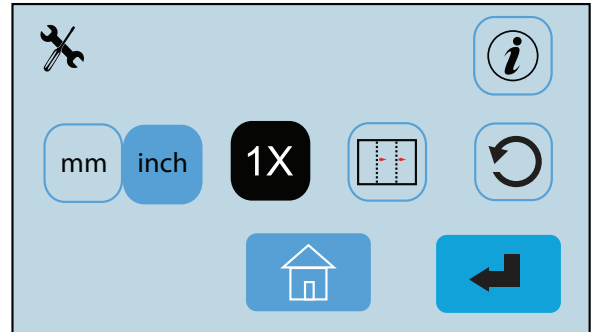

Fig. 28
1. From the Operator Settings screen (Fig. 28) press the measurement setting icon  (Fig. 29) to change between settings. The icon highlights in blue is the selected setting. By changing this setting the paper sizes will change from standard to metric or vice versa.